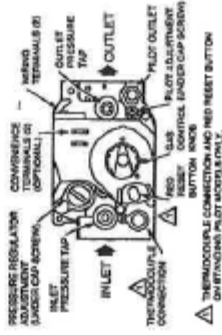

Fig. 1. Top view of VR8200 combination gas control.
- Remove regulator cap screw and pressure regulator adjusting screw. Refer to Fig. 1.
- Remove outlet pressure tap plug from gas control and connect pressure gauge. Refer to Fig. 1.